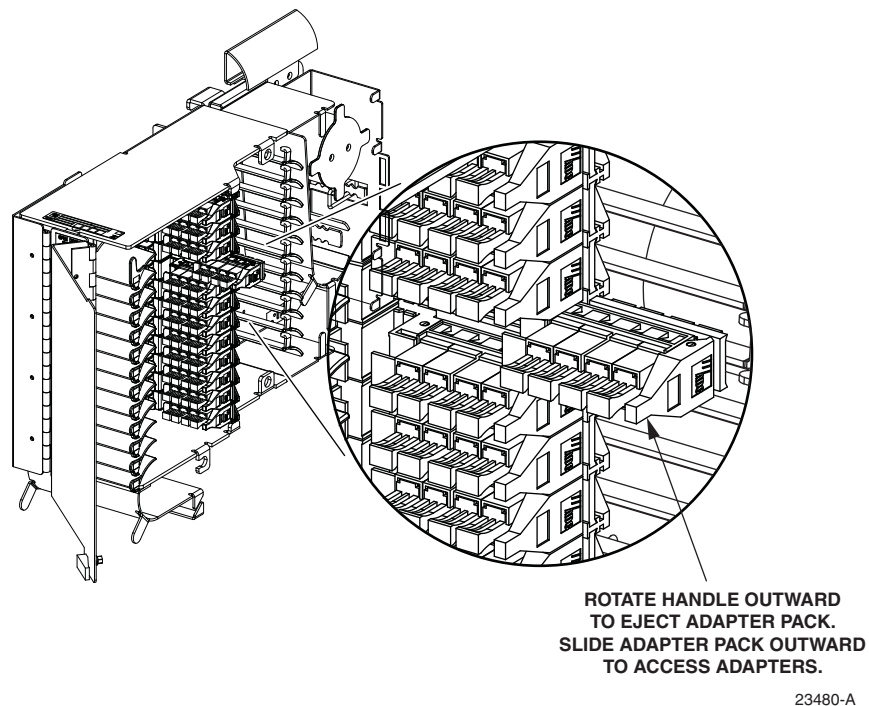

Figure 27. Access Adapter Packs in FTB
6. Slide the adapter pack outward to provide access to the rear side of the adapters as shown in Figure 27.